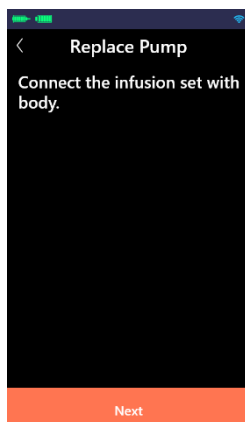

Figure 11.6
(6) Connect the infusion set with body (as shown in Figure 11.6). When completed, click “Next”.